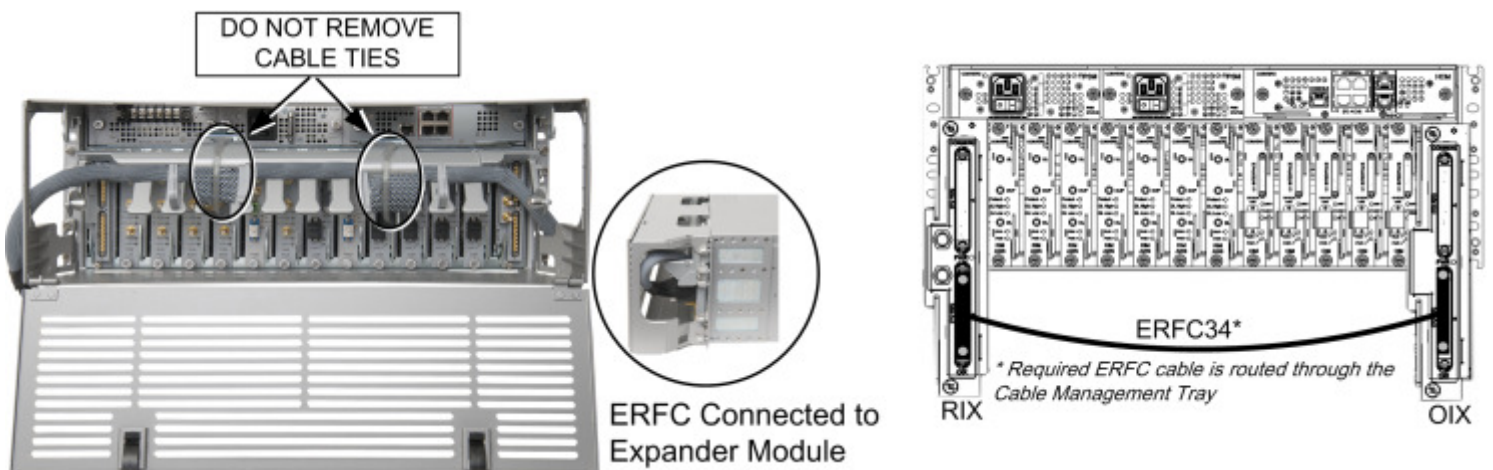

Figure 4-2. Overview of ERFC Cable Connection to RIX and OIX Modules
**ATTENTION!** Manipulate the ERFC cable as shown on left in Figure 4-2 in order to properly connect the 9-pin connectors to the RIX and OIX modules and so that the cable does not obstruct the module slots. Do not remove the cable ties holding the cable in place!